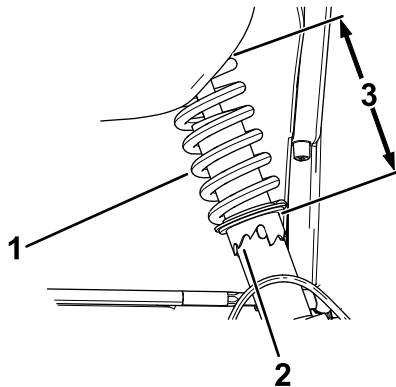

Figure 45
- If the wheel camber is out of alignment, use the spanner wrench to rotate the collar on the shock absorber to align the wheel (Figure 45).